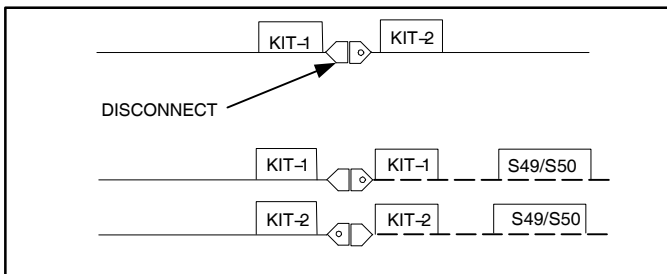

Figure 5. Installing Freezestat Kit Only
- 3.2. Make wiring connections as illustrated in figure 5 using harness provided in kits